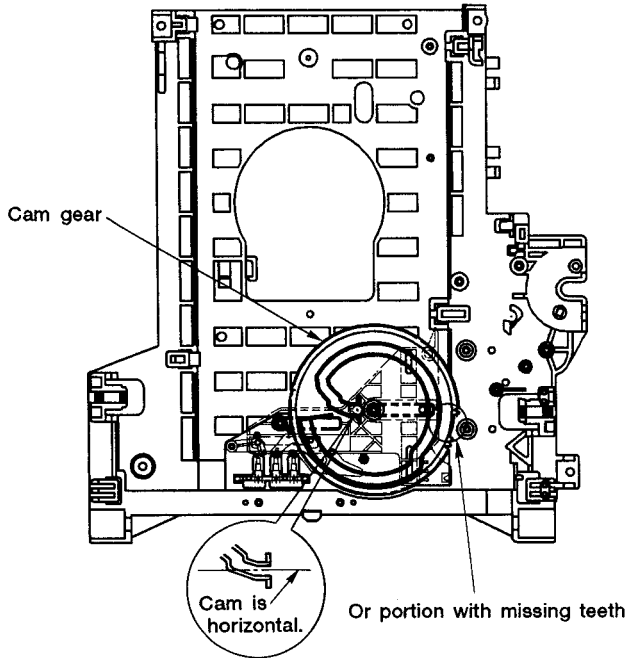

Fig. 1-10
- Slightly turn the cam gear ③ in a counterclockwise direction until the cam gear reaches the position shown in Fig. 1-10.